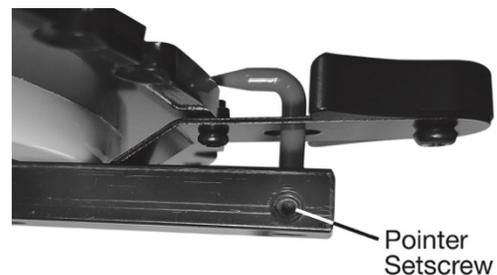

Figure 19B
4. After squaring, if the red pointer (C) is not pointing at 0°, loosen the pointer setscrew (see Figure 19B), rotate the pointer to 0°, and retighten the pointer setscrew.